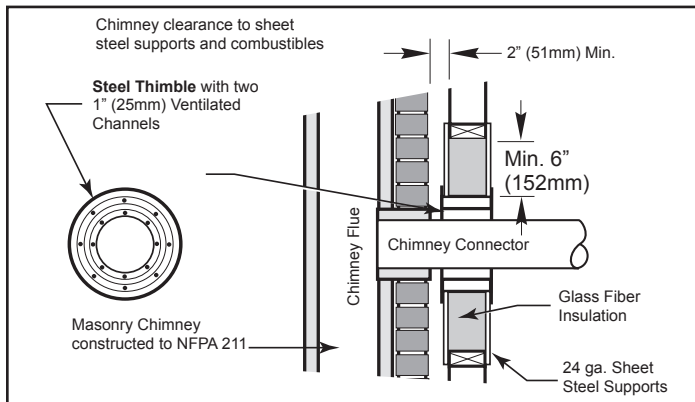

Figure 5.8 - Wall Pass-through using single wall chimney connector with a ventilated steel thimble.
- Placing a chimney connector pipe inside a steel double-wall ventilated thimble, which is then separated from combustibles by 6" (152 mm) of fiberglass insulating material. (Figure 5.8)